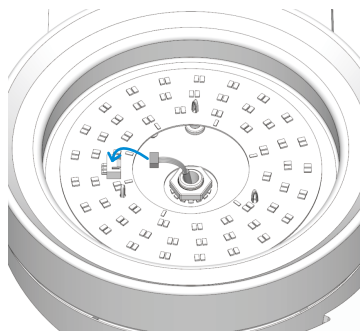

Fig. 3.2
3.3 Insert the wire plug into the light kit terminal block, as shown in Fig. 3.2.